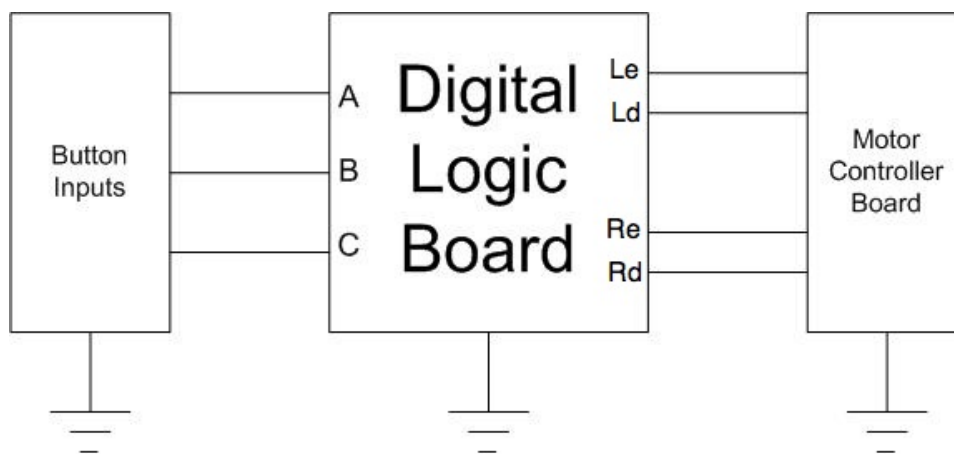

Figure 3.3: This is the block diagram for the remote control
1. Make a modified block diagram using Figure 3.3, that includes a block of logic for reverse lights. Include the required logic to turn on the backup lights when the TekBot is moving backwards. Use A, B, and C as inputs for this combinational logic.
2. Make a modified block diagram using Figure 3.3, that includes a block of logic for reverse lights. Include the required logic to turn on the backup lights when the TekBot is moving backwards. Use Le, Ld, Re, and Rd as inputs for this combinational logic. Include the required logic to turn on the reverse lights.
3. Recreate a block diagram similar to Figure 3.3 and a functional truth table like the one used in this lab to use the digital logic board to control a L293 motor controller chip. The datasheet for this chip is on the lab website. Note that this chip uses tri-state buffers which are described in page 80 of the ECE 271 textbook. Do not use